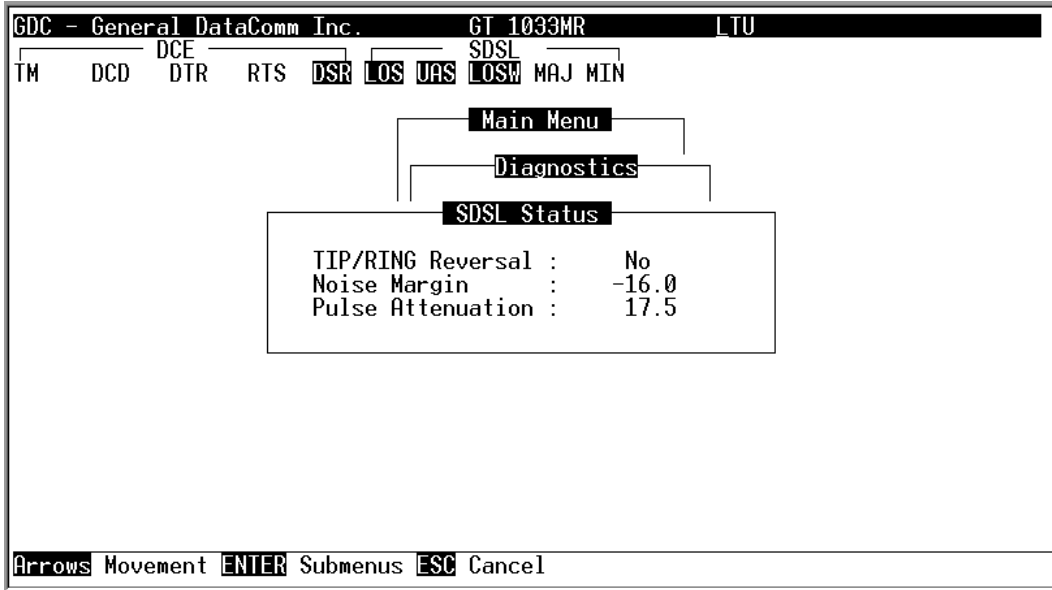

Figure 3-6 SDSL Status Screen
The SDSL Status option displays the SDSL Status screen (see Figure 3-6), which shows you diagnostic information and technical data on SDSL loop performance. Table 3-7 explains the details of each field displayed. To display the SDSL Status screen, select item 2 on the Diagnostics menu. After viewing the data, press Esc to exit and return to the Diagnostic menu.